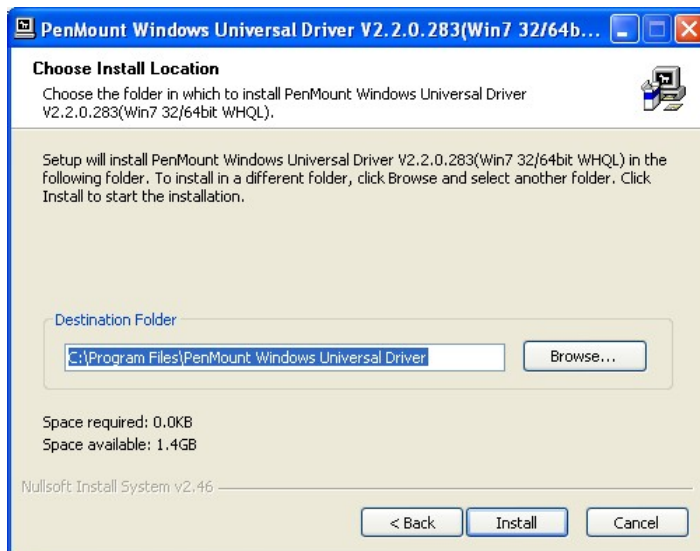

Figure 5-4: Initiate Install
Step 8: The installation destination screen appears. See Figure 5-4. Click **Install**.